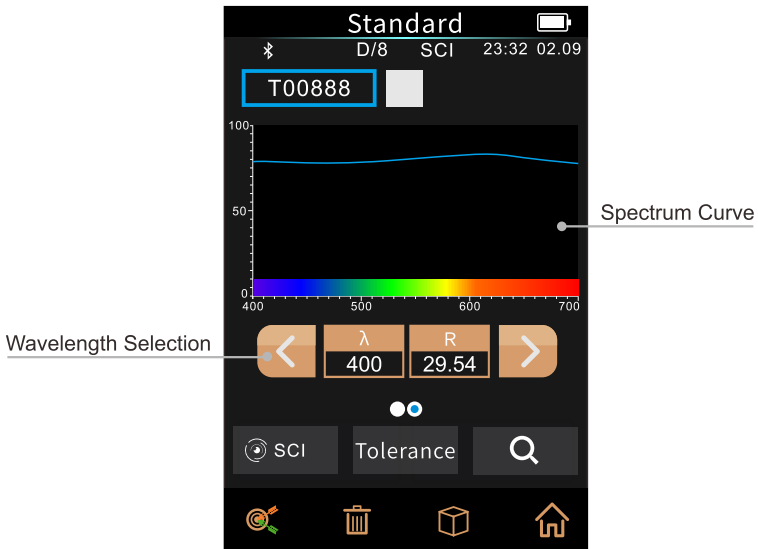

Figure 10 Standard sample measurement spectrum display interface
- 13) Wavelength switching button : As  shown in Figure 10, clicking the button will switch the wavelength and reflectivity of the current test sample at 10nm intervals.